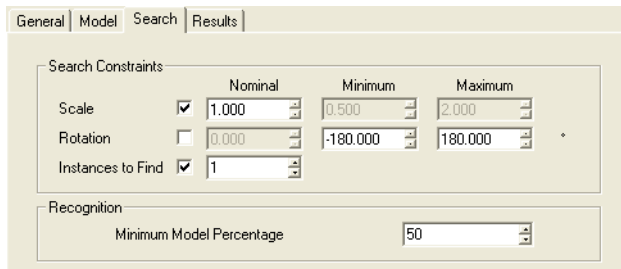

Figure 24 Search Panel of the Locator Tool
4. Leave all the other parameters to their default setting also, as shown in Figure 24.